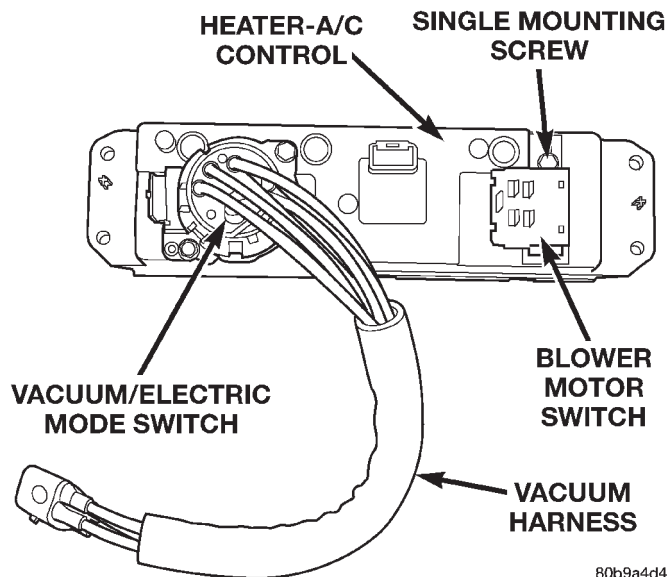

Fig. 40 Blower Motor Switch Remove/Install
(3) Remove the heater-A/C control from the instrument panel. See Heater-A/C Control in this group for the procedures.
(4) Remove the screw that secures the blower motor switch to the rear of the heater-A/C control (Fig. 40).